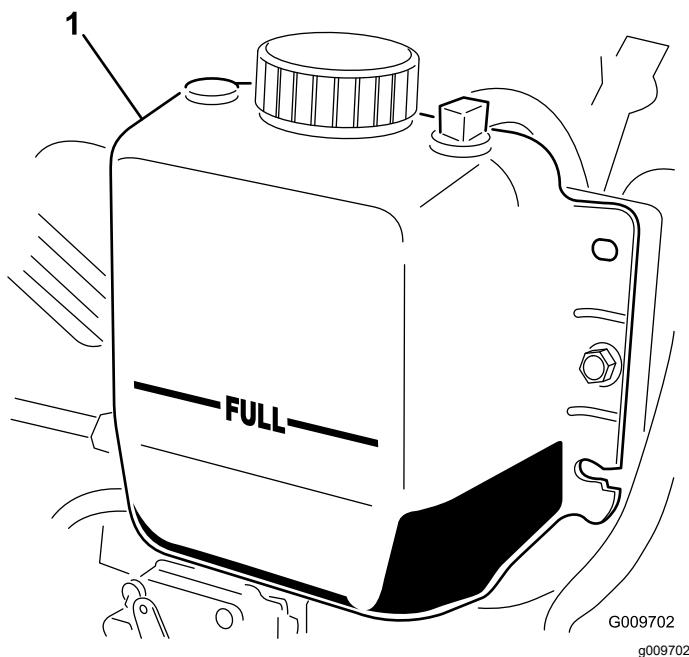

Figure 70
3. Check the coolant level in the radiator. The radiator should be filled to the top of the filler neck and the expansion tank filled to the FULL mark (Figure 70).